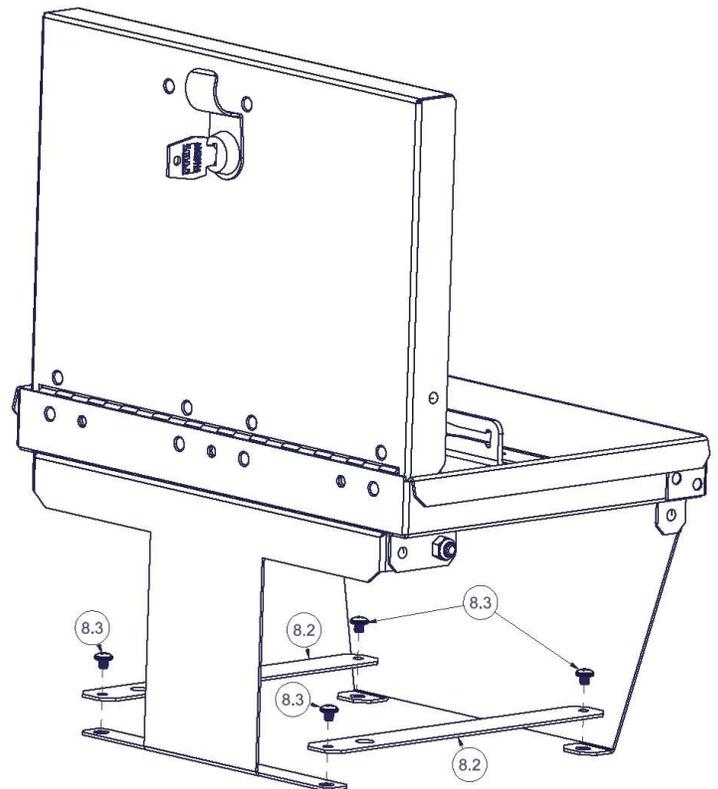

FIGURE 3
8. With the front and rear legs fully extended, install the #8.2 Bottom Plates using (4) #8.3 screws, as shown in Figure 3.